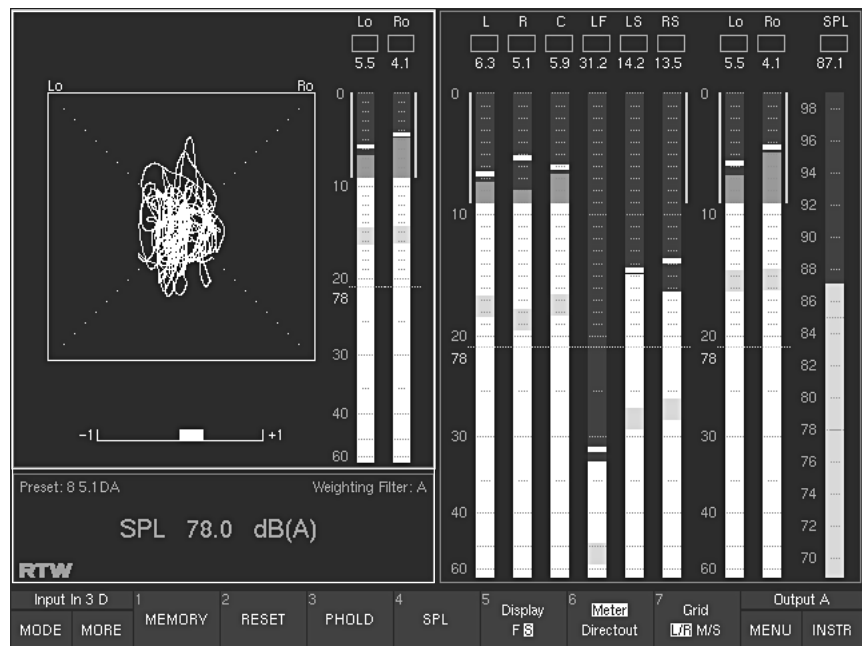

Fig. 3-13: Screen display with DOWNMIX instrument selected
(Button/key 1, see Fig. 3-13)
(Button/key 2, see Fig. 3-13)
(Button/key 3, see Fig. 3-13)
(Button/key 4, see Fig. 3-13)
(Button/key 5, see Fig. 3-13)
(Button/key 6, see Fig. 3-13)
(Button/key 7, see Fig. 3-13)